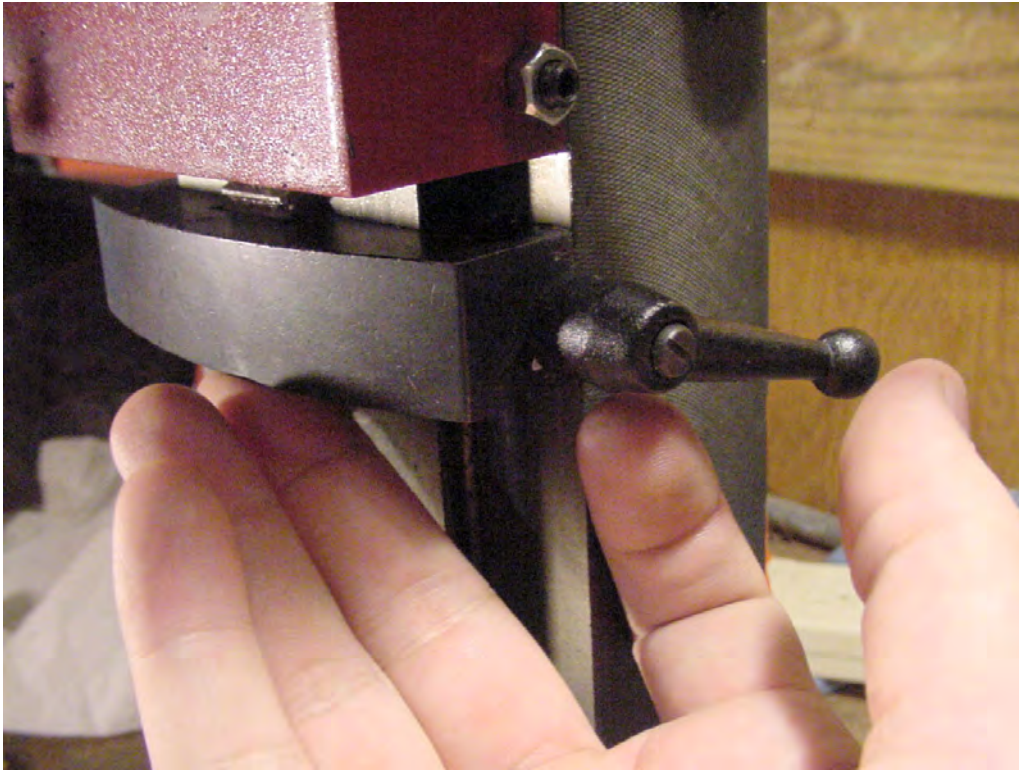

Figure 3-17. Limit block being slid up the headstock. In this figure, the limit block needs to be moved up a little more before it's locked in position.
5. Most drill presses and vertical milling machines have a limit block. Slide the limit block up the headstock and lock it in place (see Figure 3-17). This allows the drill to move up but not to move down any farther than the depth just measured.